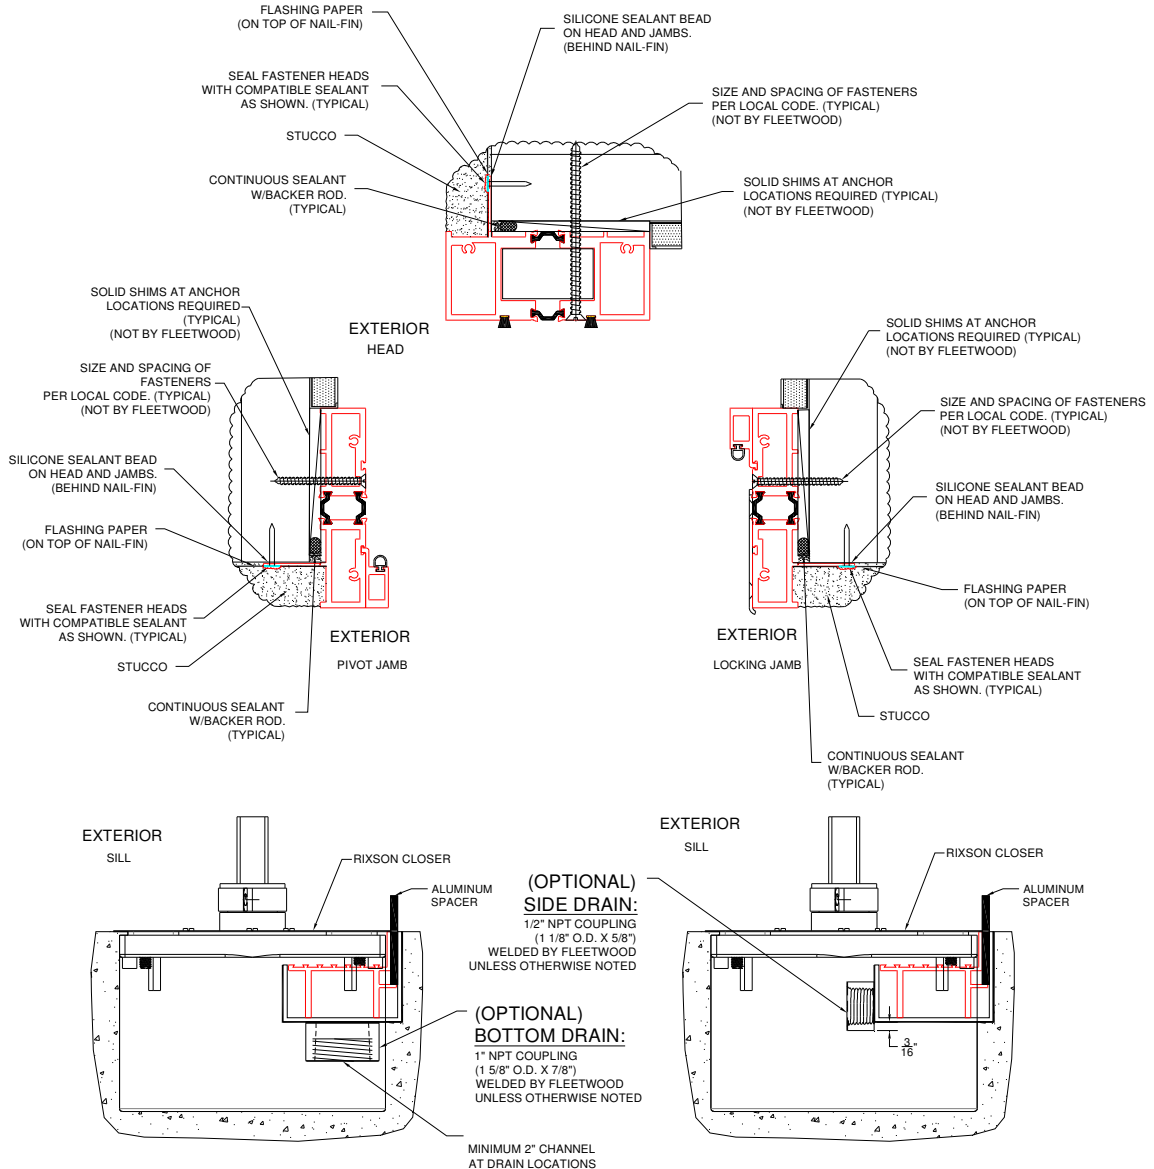

Figure 6:
6. To complete the panel installation, apply backer rod and a complete bed of sealant to the entire exterior and interior joint between the frame and the building structure. Tool the sealant to eliminate bubbles, voids and / or breaks and ensure a completely watertight seal (Figure 6,8).